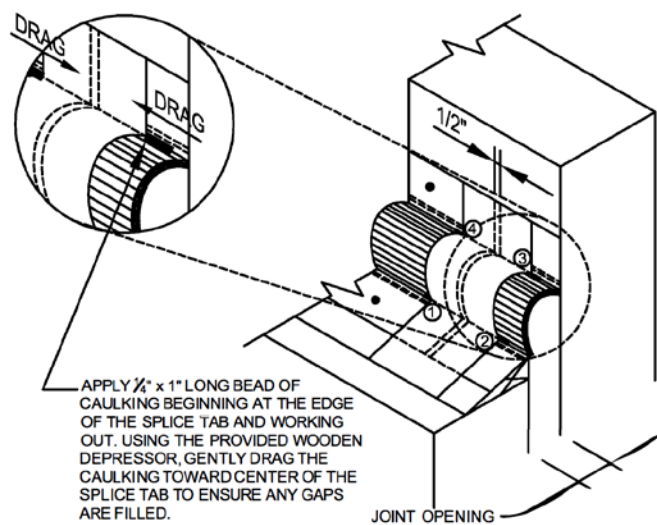

Figure 3
3. Apply 1/4" x 1" long bead of caulking beginning at the edge of the splice tab and working out. Using the provided wooden depressor, gently drag the caulking toward center of the splice tab to ensure any gaps are filled. Typical @ at four location per splice tab and typical at each spliced location. **See Figure 3**